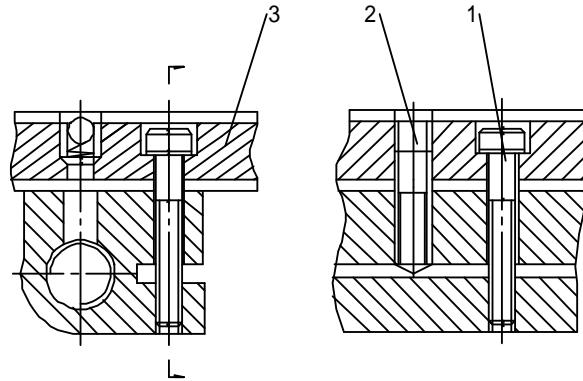

Fig.11-7 Cross slide screw nut adjustment diagram
The cross slide is driven by the split nut which moves with rotation of lead screw and is used to eliminate transmission clearance by adjusting the pitch diameter fit. When adjusting loosen the stop screw (2) first and then adjust screw (1) till the clearance is removed. After completion tighten screw (2) again and cover the dust lid (3). See Fig.11-7.